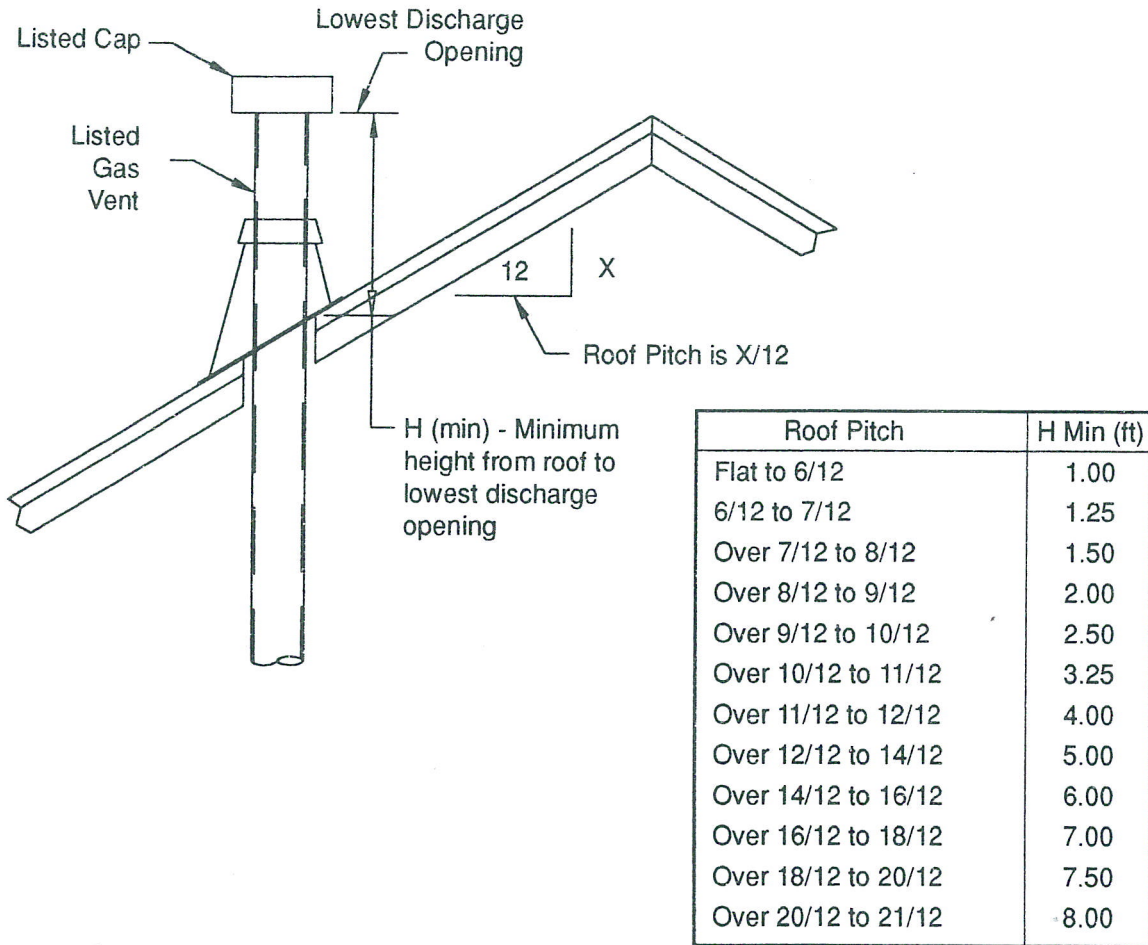

Figure 13: Minimum Vent Height for Various Roof Pitches
1. Plan your vertical installation. Major building codes specify a minimum vent height above the roof top depending on the pitch of the roof. Refer to Figure 13 for minimum chimney heights. Trees, buildings, adjoining roof lines, & adverse wind conditions may require taller chimneys than what is shown in Figure 13.
- NOTE: Refer back to Figure 13 for appropriate chimney lengths.